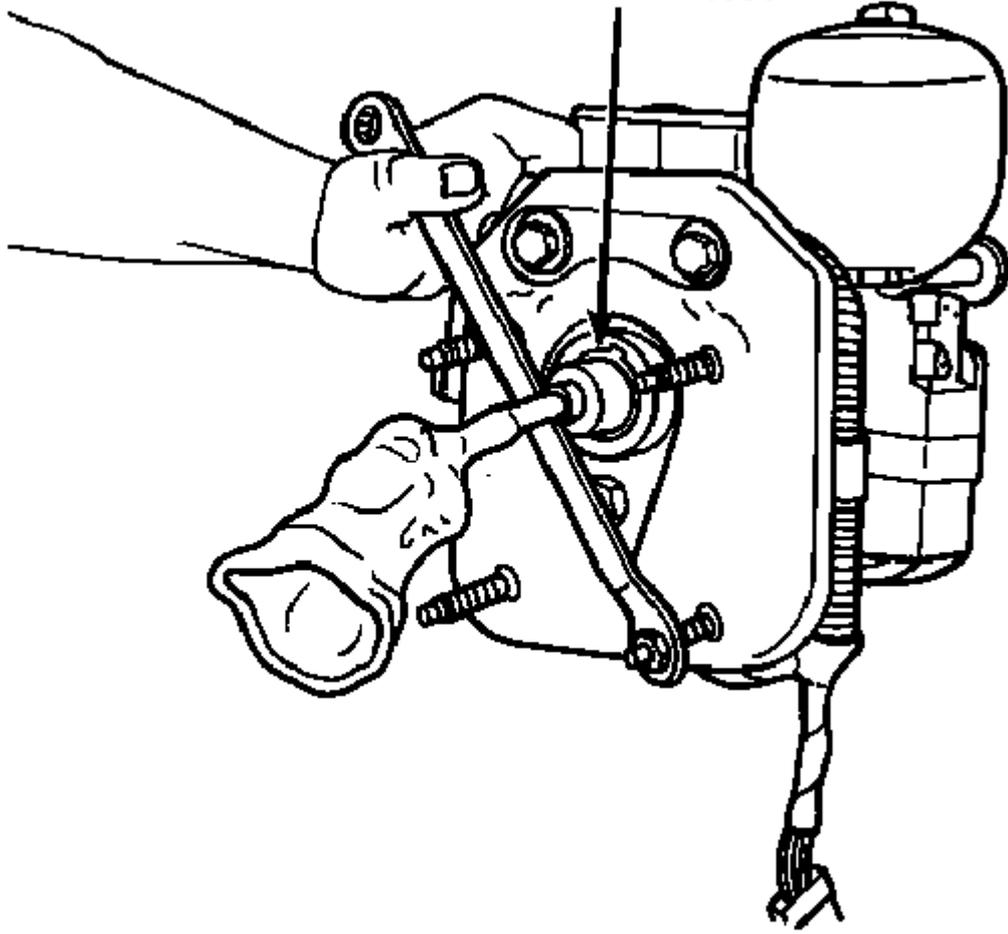

Figure 14
22. With the keyway at the top of the bore, in the 12 o'clock position, position the snap ring so that one end is in 10 o'clock position and the other end is in the 8 o'clock position (Figure 14). The snap ring should cover the keyway at the 12 o'clock position.